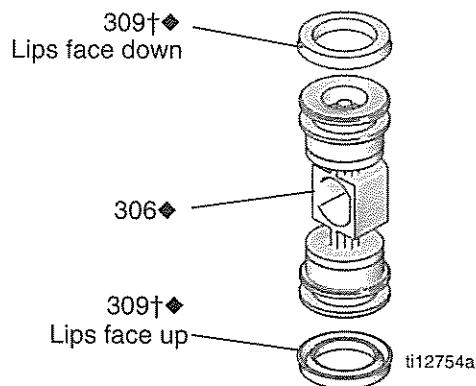

FIG. 7: Air Valve U-cup Installation
2. See FIG. 7. Lubricate the u-cups (309†◆) and install on the piston (306◆) with the lips facing toward the center of the piston.